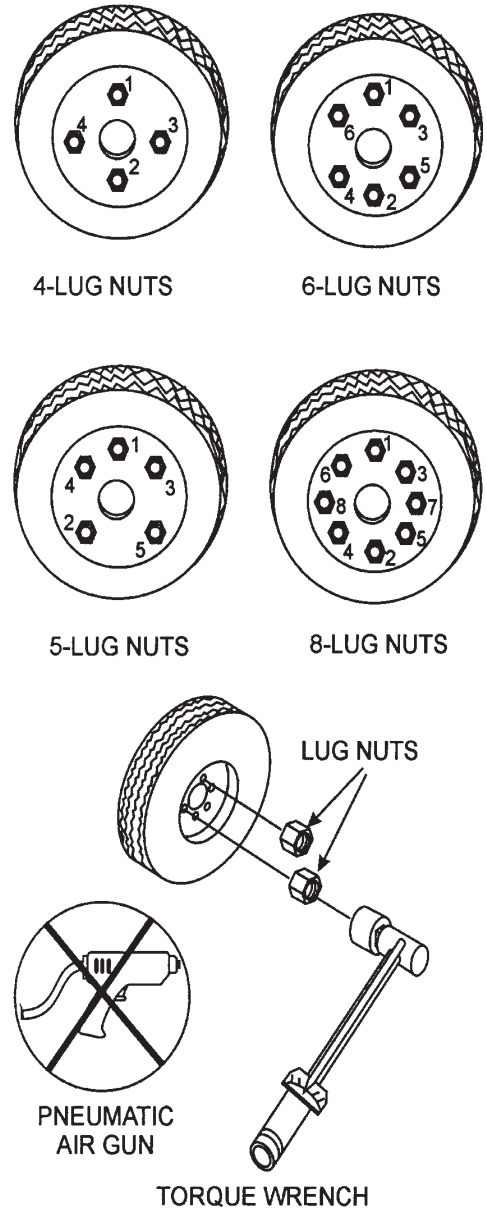

Figure 64. Wheel Lug Nuts Tightening Sequence
12. **Lug Nuts** — Used to secure the wheel to the wheel hub. Always use a torque wrench to tighten down the lug nuts. See Table 16 and Figure 64 for lug nut tightening and sequence.
2. Torque all lug nuts in sequence (see Figure 64). **DO NOT** torque the wheel lug nuts all the way down. Tighten each lug nut in 3 separate passes as defined by Table 16.